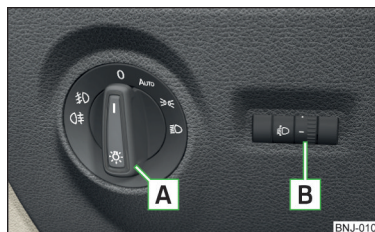

Fig. 41
The layout of the controls on right-hand drive vehicles differs partially from that shown in » Fig. 41 on page 60. The symbols which mark the positions of the controls are identical.
Depending on the equipment configuration, the light switch [A] » Fig. 41 can be moved to the following positions. ►
Turning the dial **B** » Fig. 41 from the position — in 3 means the headlight beam range is gradually adjusted, thereby shortening the beam of light.
- ✓ The light switch is in the position 0 or AUTO » Fig. 41 on page 60.